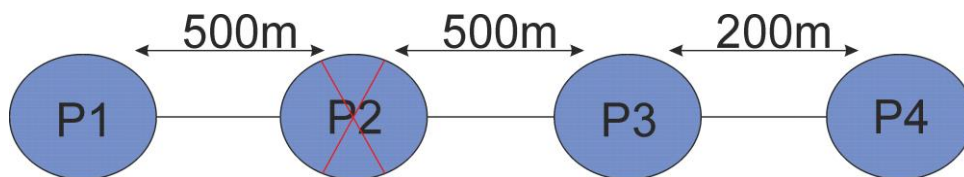

Figure 14
**Case 2 (Figure 14):** In this case we have 4 panels connected as shown above, using an open ring topology. If panel **P2** stops operating (goes to cut off, unexpected crash or some other fault) then **P3** and **P4** panels will continue to communicate with each other. **P1** and **P3** are physically connected because the **P2** does not operate, and it is bypassed by the panel network safety hardware. In this case the cumulative cable length between **P1** and **P3** is 1000m (500m+500m) and it exceeds the nominal cable length of 800m. **The panel network communication from this side of the ring cannot be reliable.** The communication between **P1** and **P3** cannot be guaranteed. The resulting sub network (**P3** & **P4**) will continue normal operation and the user will be notified for the relative faults. After the problem with **P2** is resolved, the panel network will return to its initial state.